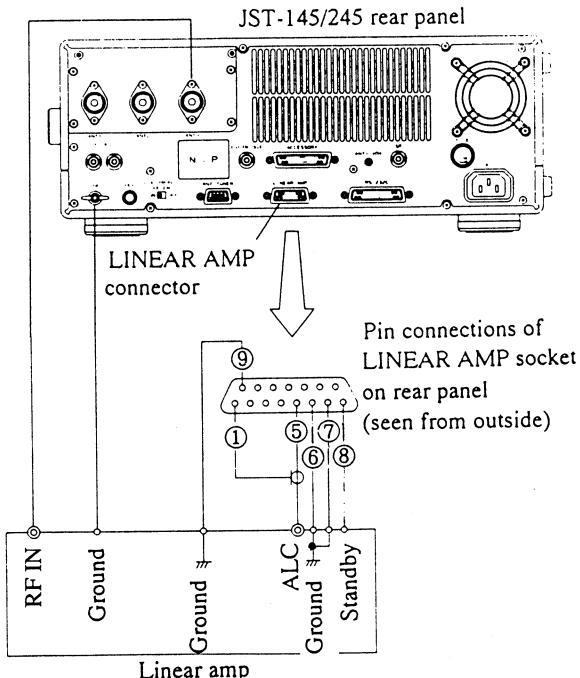

Figure 1-12 Connection of Linear Amp
Connect the optional CFQ-4794 control cable to the LINEAR AMP connector (70) on the rear panel of the JST-145/245 to use JRC's JRL-2000F linear amp. See Figure 1-12 for how to connect a linear amp other than the JRL-2000F.